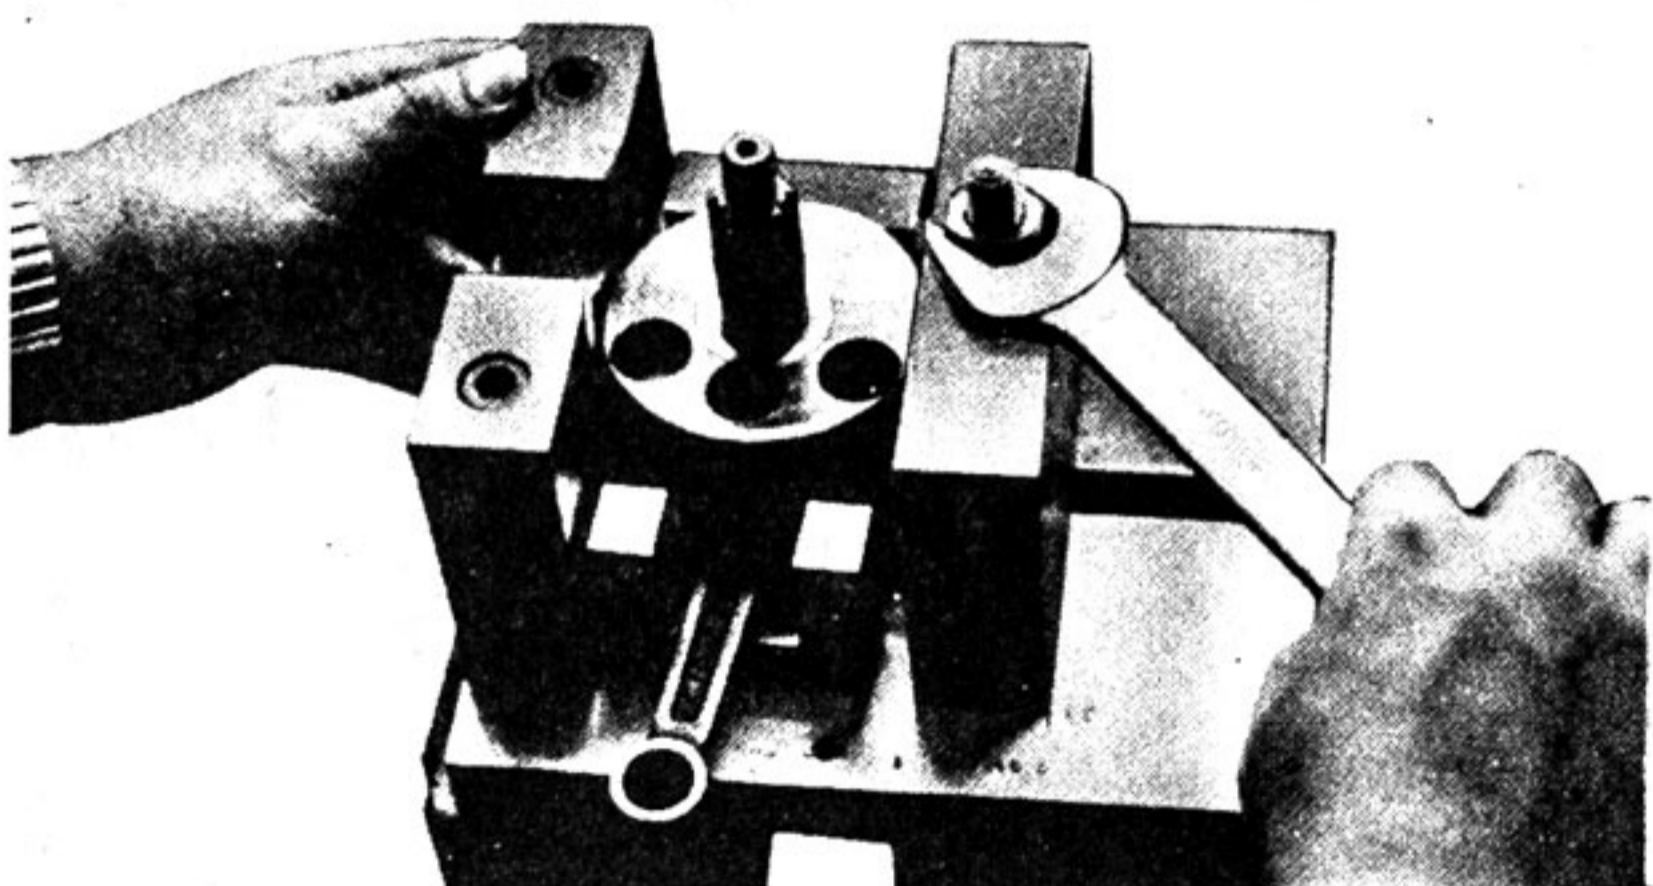

Fig. 4-17-15
(4) Tighten the slide plate lock nut fully. (Fig. 4-17-15)